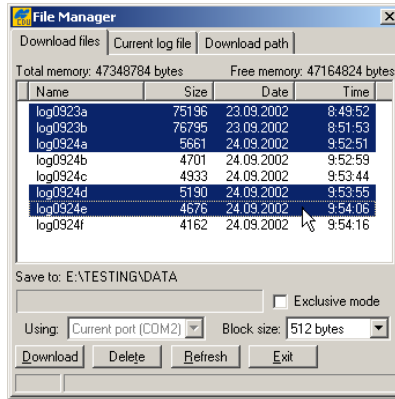

Figure 5-11. Download Files
- Click the **Download files** tab and select the file(s) to download (Figure 5-11 on page 5-7).